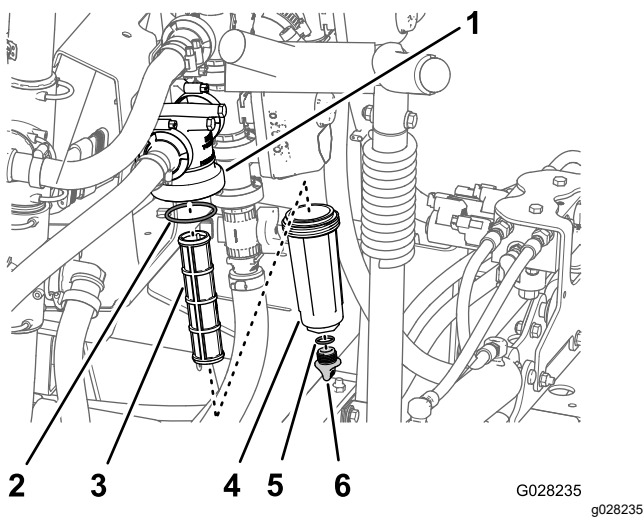

Figure 114
2. Align a drain pan under the pressure filter (Figure 114).
3. Rotate the drain plug counterclockwise and remove it from the bowl of the pressure filter (Figure 114).
4. Rotate the bowl counterclockwise and remove it from its filter head (Figure 114).
5. Remove the old pressure-filter element (Figure 114).
6. Check the O-ring for the drain plug (located inside the bowl) and the O-ring for the bowl (located inside the filter head) for damage and wear (Figure 114).
7. Install the new pressure-filter element into the filter head (Figure 114).
8. Install the bowl onto the filter head and tighten by hand (Figure 114).
9. Install the plug into the bowl and tighten by hand (Figure 114).